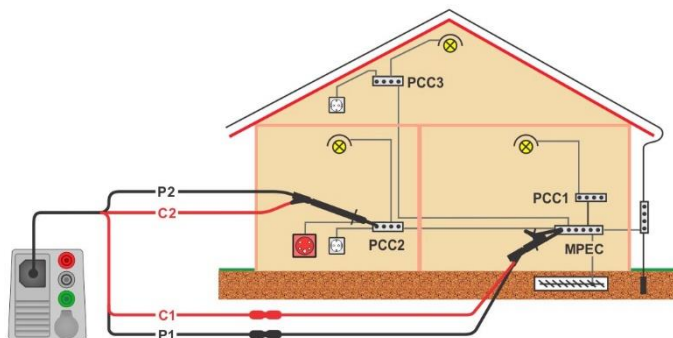

Figure 7.25: Connection of 4-wire test lead plus optional extension leads
- ▶ Connect test leads to device under test, see **Figure 7.25**. Use extension leads if necessary.